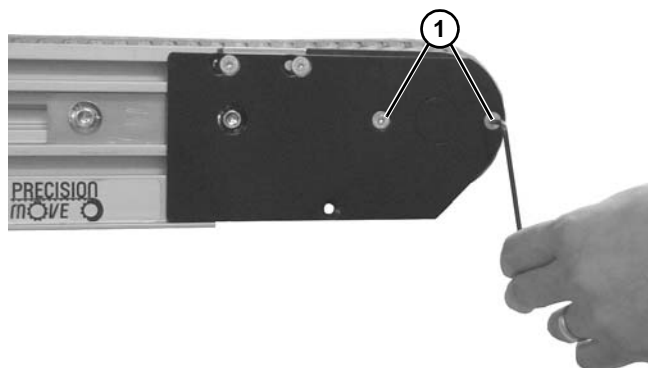

Figure 23
9. On opposite side of tension end, remove two fastening screws (**Figure 23, item 1**).